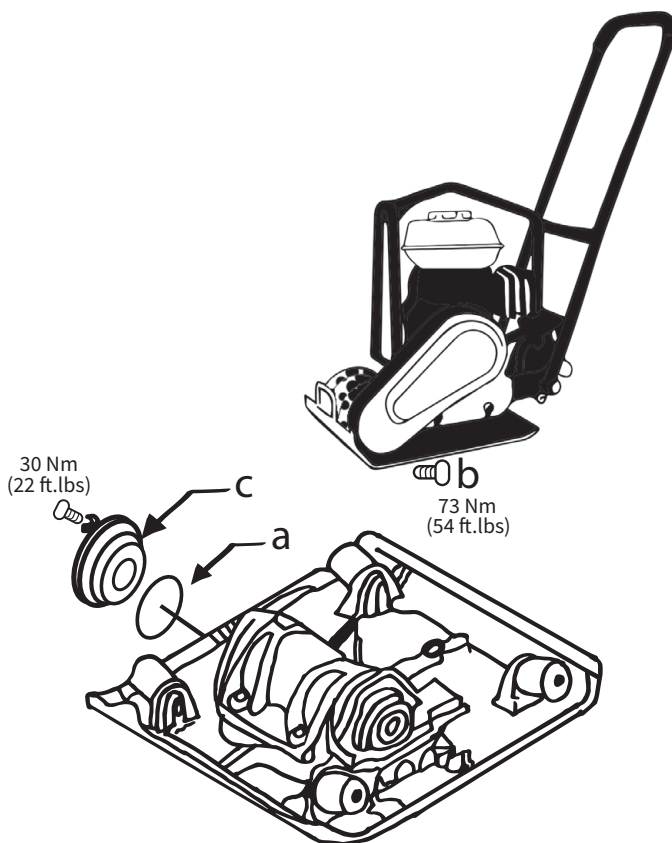

Fig. 4
4.4 Exciter Lubrication (Fig. 4)